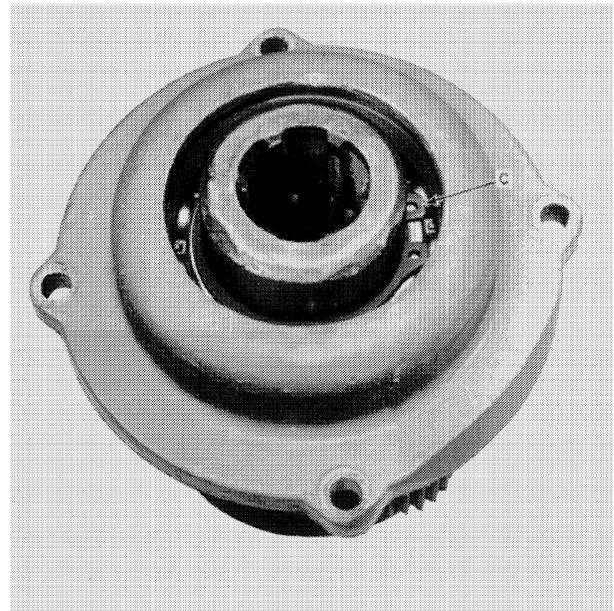
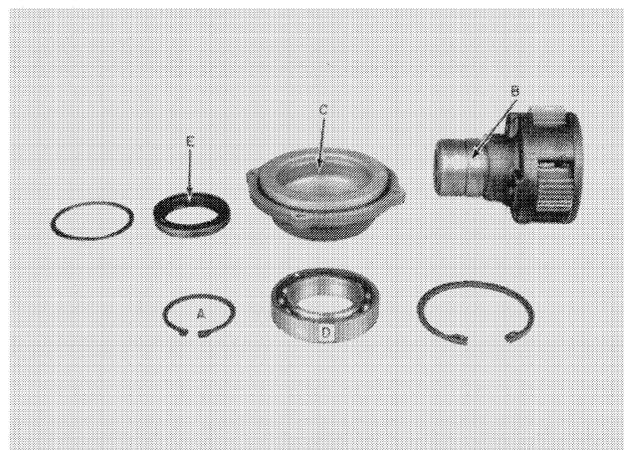

FIGURE 1-17
FIGURE 1-18
4. Remove retaining ring, C, Figure 1-17.
5. Remove retaining ring, A, Figure 1-18.
6. Remove the carrier and gear assembly, B, Figure 1-18, from front plate, C. The carrier shaft is a light press fit in bearing, D.
3. Press carrier assembly, B, through the bearing in the front plate and install retaining ring, C, Figure 1-17.
4. Press shaft seal, E, Figure 1-18, in the front plate and install retaining ring as shown in Figure 1-17.